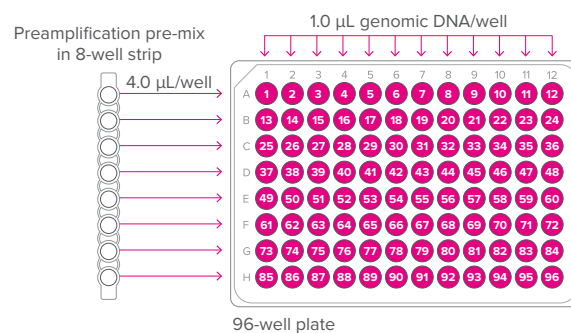

Figure 1. Preparation of preamplification reaction mix
- 4 Prepare the preamplification reaction mixes per sample as shown in Table 2 and Figure 1.
- b Remove the plate from the DNA-free hood and add DNA samples to each well containing pre-mix, as shown in Figure 1.